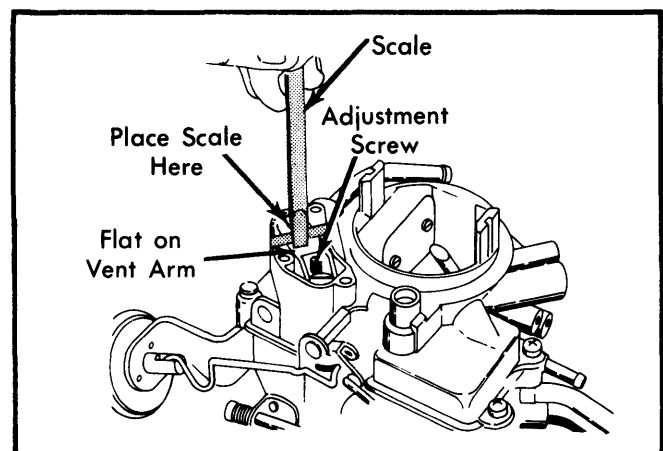

Fig. 6 Adjusting Bowl Vent Valve
1) Remove bowl vent valve cover and spring. Place throttle at curb idle position. Using a "T" scale, measure bowl vent valve specified clearance from cover surface on air horn to flat area on bowl vent valve lever. See Fig. 6.